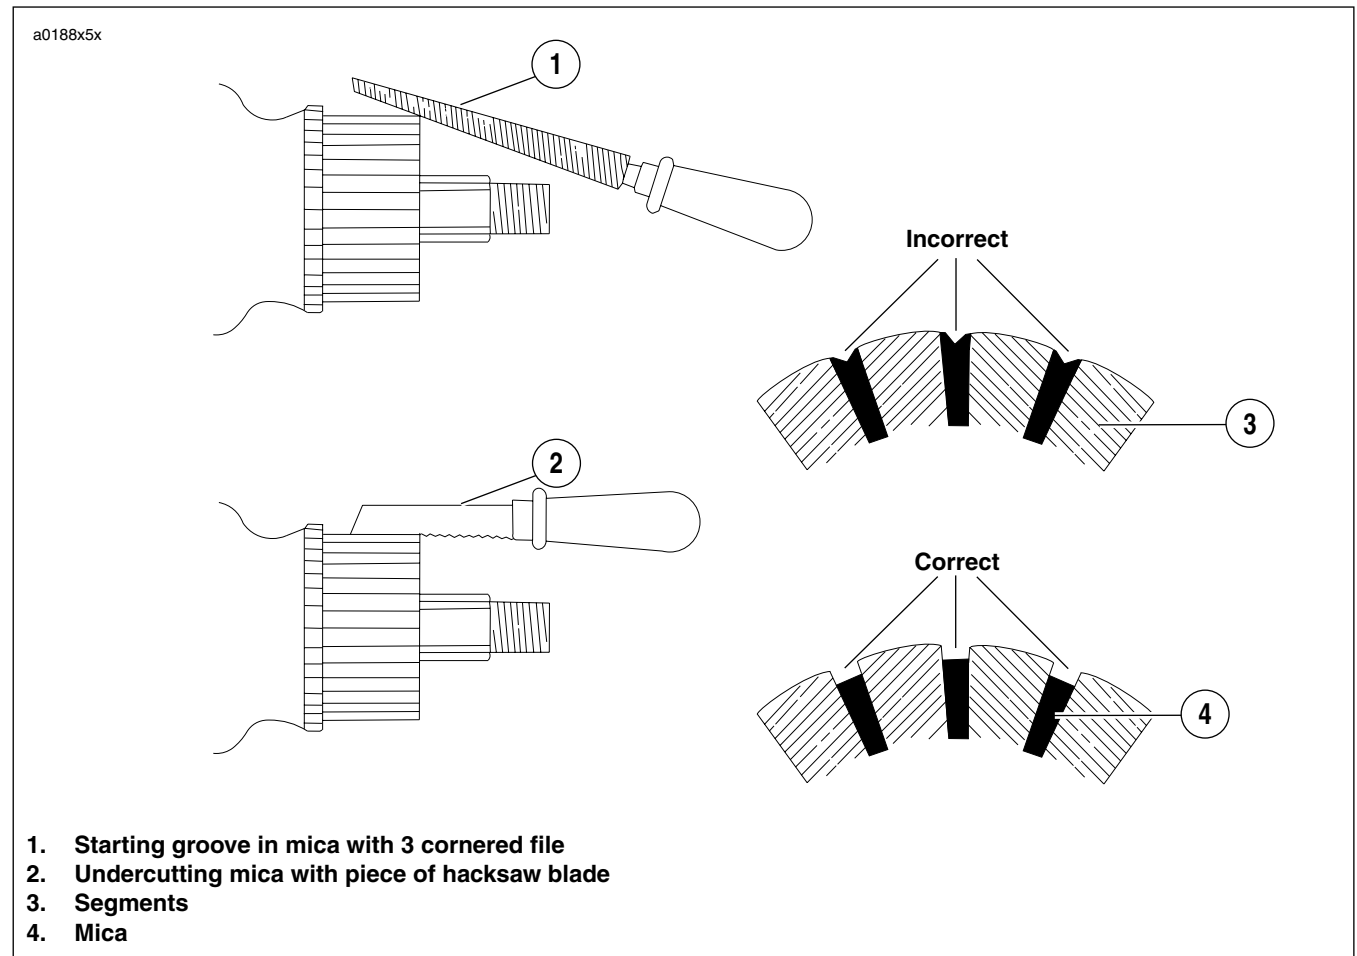

Figure 5-19. Undercutting Mica Separators
- See Figure 5-19. If an undercutting machine is not available, undercutting can be done satisfactorily using a thin hacksaw blade. After undercutting, lightly sand the commutator with crocus cloth to remove any burrs.
- See Figure 5-19. Mica must not be left with a thin edge next to segments. Mica must be cut away clean between segments.